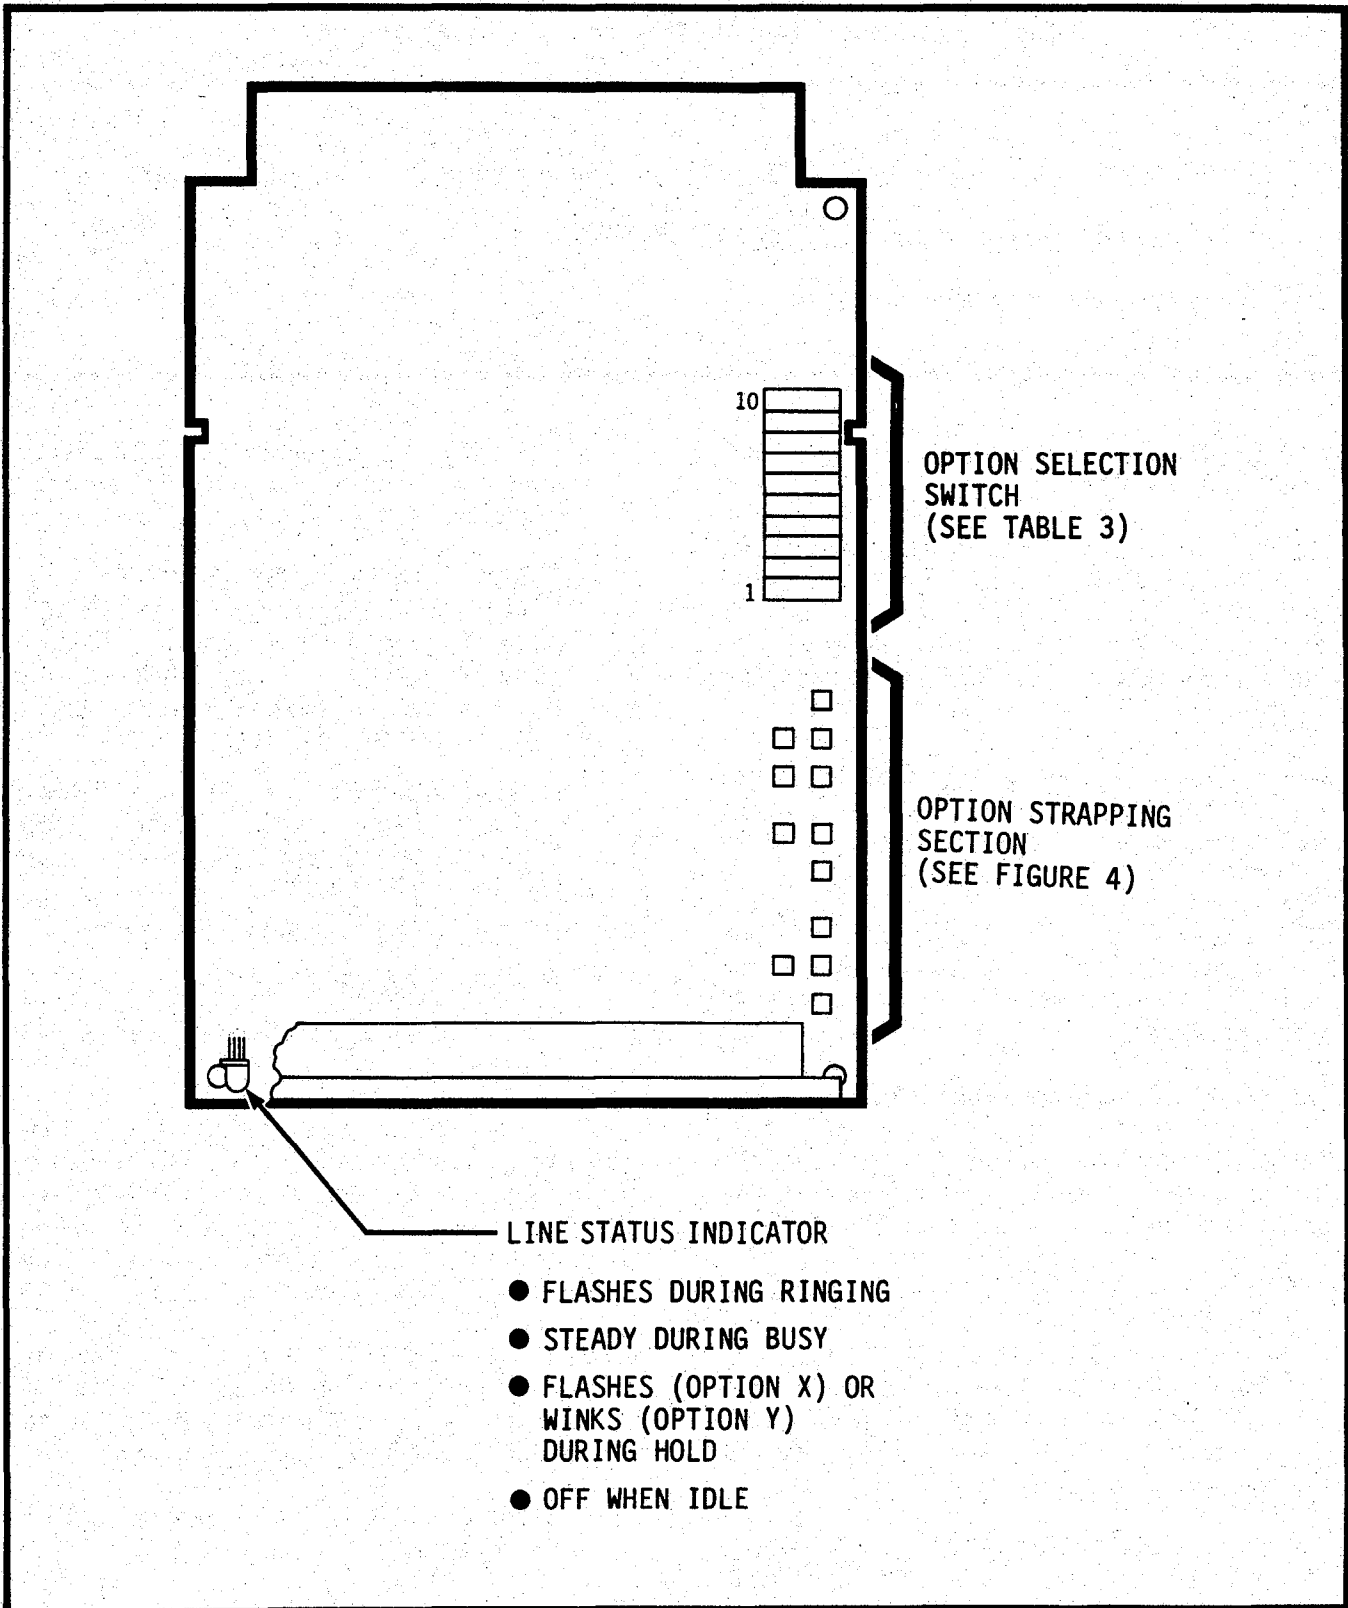

Figure 3 Component Locations
(2) Ensure that the key system into which the M-487 will be installed has a good connection to earth ground. This is particularly important in areas having a high probability of lightning and power line surges.
**4.03** Refer to Figure 3 when locating components called for in the following installation steps. Perform these steps in sequence: